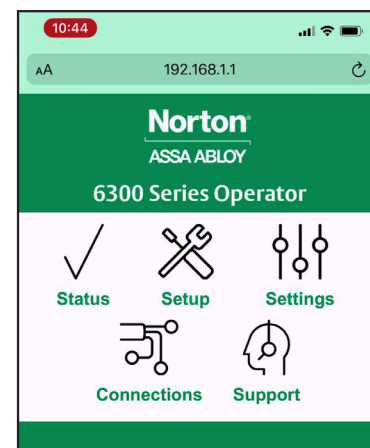

Figure 14
- The 6300 Series Operator homepage is indication of a successful connection. (Figure 14)